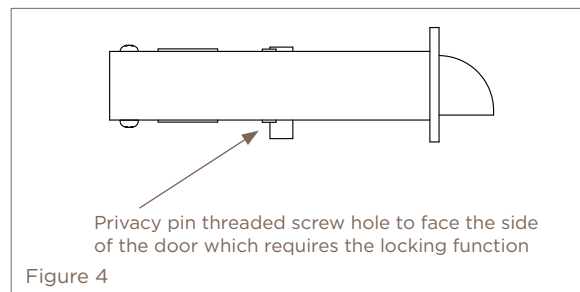

Figure 4
7. Place the tube latch privacy inbuilt (A) into the door and mark the two screw holes.
8. Remove the tube latch privacy inbuilt (A) and drill the two screw D2mm or ¹/₁₆" pilot holes.
9. Place the tube latch privacy inbuilt (A) with the face plate (B) into the door, with the privacy pin threaded screw hole facing the face of the door which requires the locking function. Figure 4.